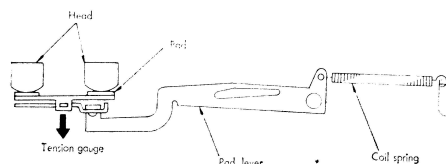

Fig. 6
- f) To obtain sufficient erasing, the position of erasing head must be correct. In addition, the position of recording and playback heads must be correct for the best result of reproduction. (Fig. 6)